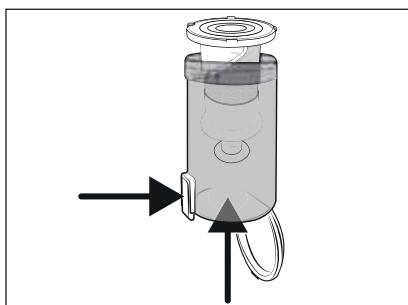

Fig. 18
- 3) Remove the stainless steel filter ⑤ from the dust container ⑥ by pressing the dirt container lid release button ⑦. Then slide the stainless steel filter ⑤ out of the dust container ⑥ from below (see Fig. 18).